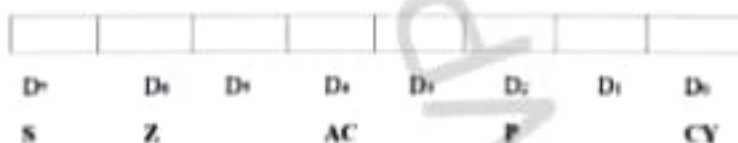

Fig. 4 Flag register
The ALU includes five flip-flops, which are set or reset after an operation according to data condition of the result in the accumulator and other registers. They are called Zero (Z), Carry (CY), Sign (S), Parity (P) and Auxiliary Carry (AC) flags. Their bit positions in the flag register are shown in Fig. 4. The microprocessor uses these flags to test data conditions.